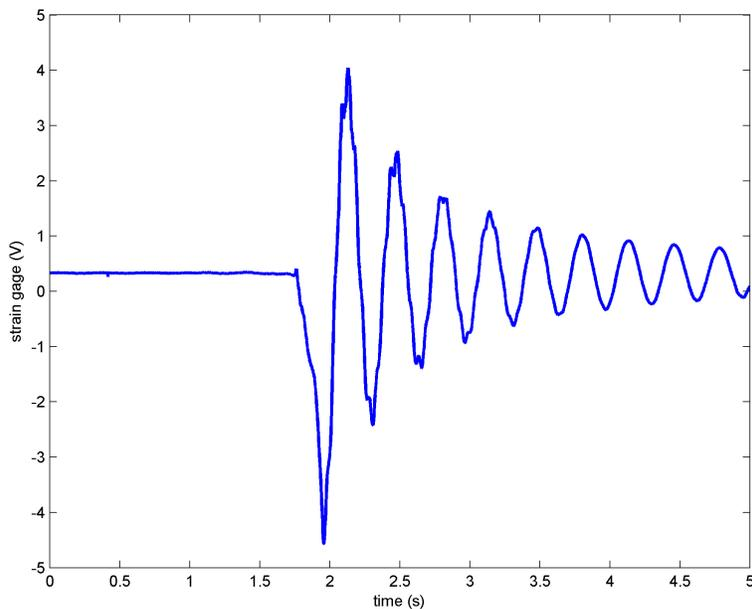

Figure 5.1: Strain Gage Sensor Typical Response
2. Figure 5.1 illustrates a typical strain gage reading when the tip of the link has been manually perturbed.